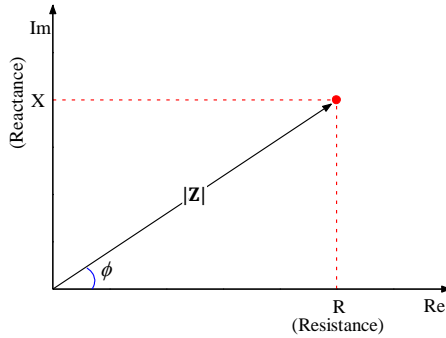

Figure 1: Impedance vector: Real and Imaginary components
In engineering terminology, the concept of ‘impedance’ should be used to account for the impeding effect of the electrostatic storage of charge in concrete in addition to the normal resistance of concrete. Impedance, \mathbf{Z} , is described as a complex quantity that has an imaginary component called reactance, \mathbf{X} , and a real component called resistance, \mathbf{R} . In other words, the vector summation of these two components would result in an impedance vector, \mathbf{Z} . Therefore, the electrical impedance \mathbf{Z} can be also represented by a magnitude (Z) and a phase angle (φ) (Fig.1). Both the magnitude and phase angle of such a vector could vary depending on the frequency of the applied current.